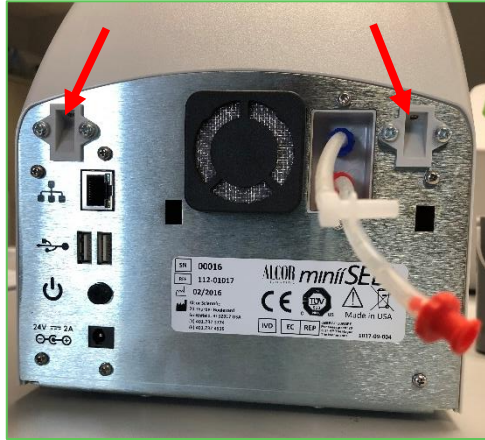

Figure 1A
3. Power off the miniSED and disconnect the power supply from the power input at the rear of the device. (Figure 1A)
5. Remove the two screws from the rear of the device holding the enclosure in place. (Figure 1A) Open the enclosure by rotating the housing towards the front of the device. (Figure 1B)